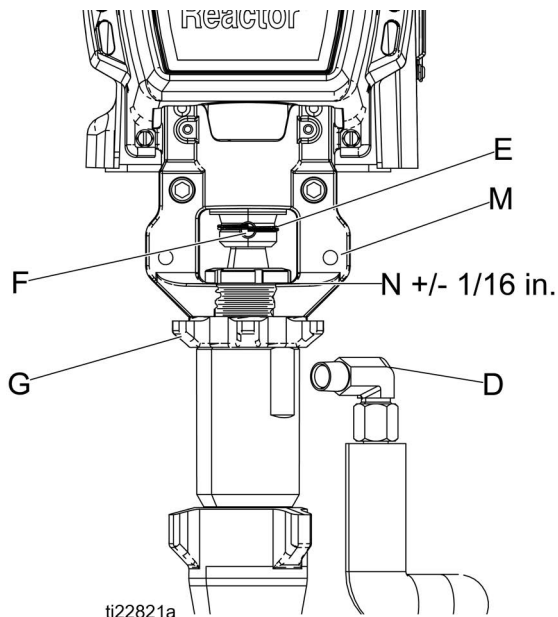

FIG. 3
1. Ensure locknut (G) is screwed on pump with flat side up. Screw pump into bearing housing (M) until pin holes align. Push pin (F) in. Pull retaining wire clip (E) down. See **FIG. 3** for view and assembly notes.
2. Continue screwing pump into housing until fluid outlet (D) is aligned with steel tube and top threads are +/- 1/16 in. (2 mm) of bearing face (N).
3. Tighten locknut (G) by hitting firmly with a non-sparking hammer.
4. Reconnect fluid inlet (C) and outlet (D).